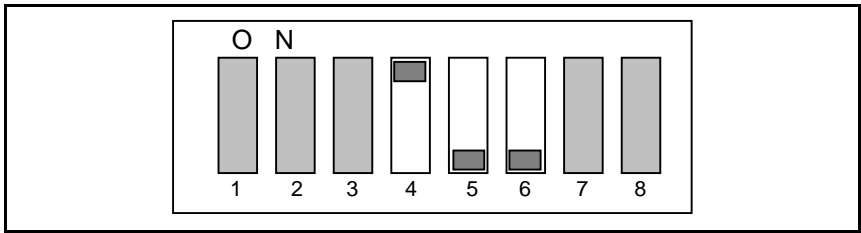

Figure 4-5: Radio Senses Charger and Provides NORMAL Display
- To enable the radio to sense the **EVC and provide a NORMAL display**, move switch 4 to the ON position. This switch applies to M-RK radios only. See Figure 4-5.